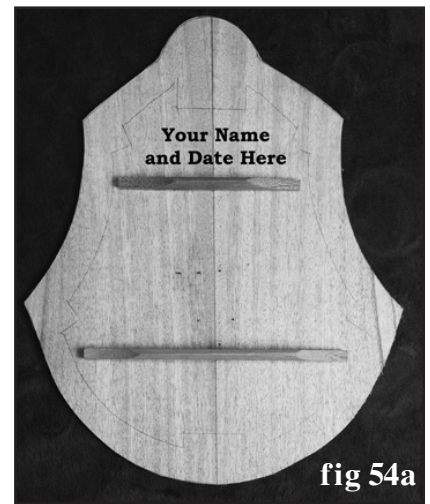

fig 54a
54. We always recommend identifying the builder inside the instrument where you can see the inscription through the soundhole (fig 54a). You could make a nice label on your computer and print it out on parchment paper, or you can simply write your signature and date directly on the wood with a pen. Practice on a scrap piece of the same wood to make sure your writing will show up nicely.